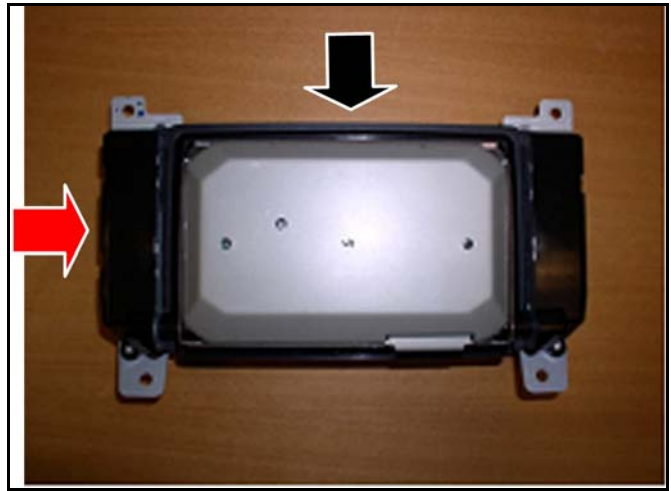

Figure 2
2. The black arrow points to the front edge of the display (see Figure 2). The red arrow points to the side that has the gears.